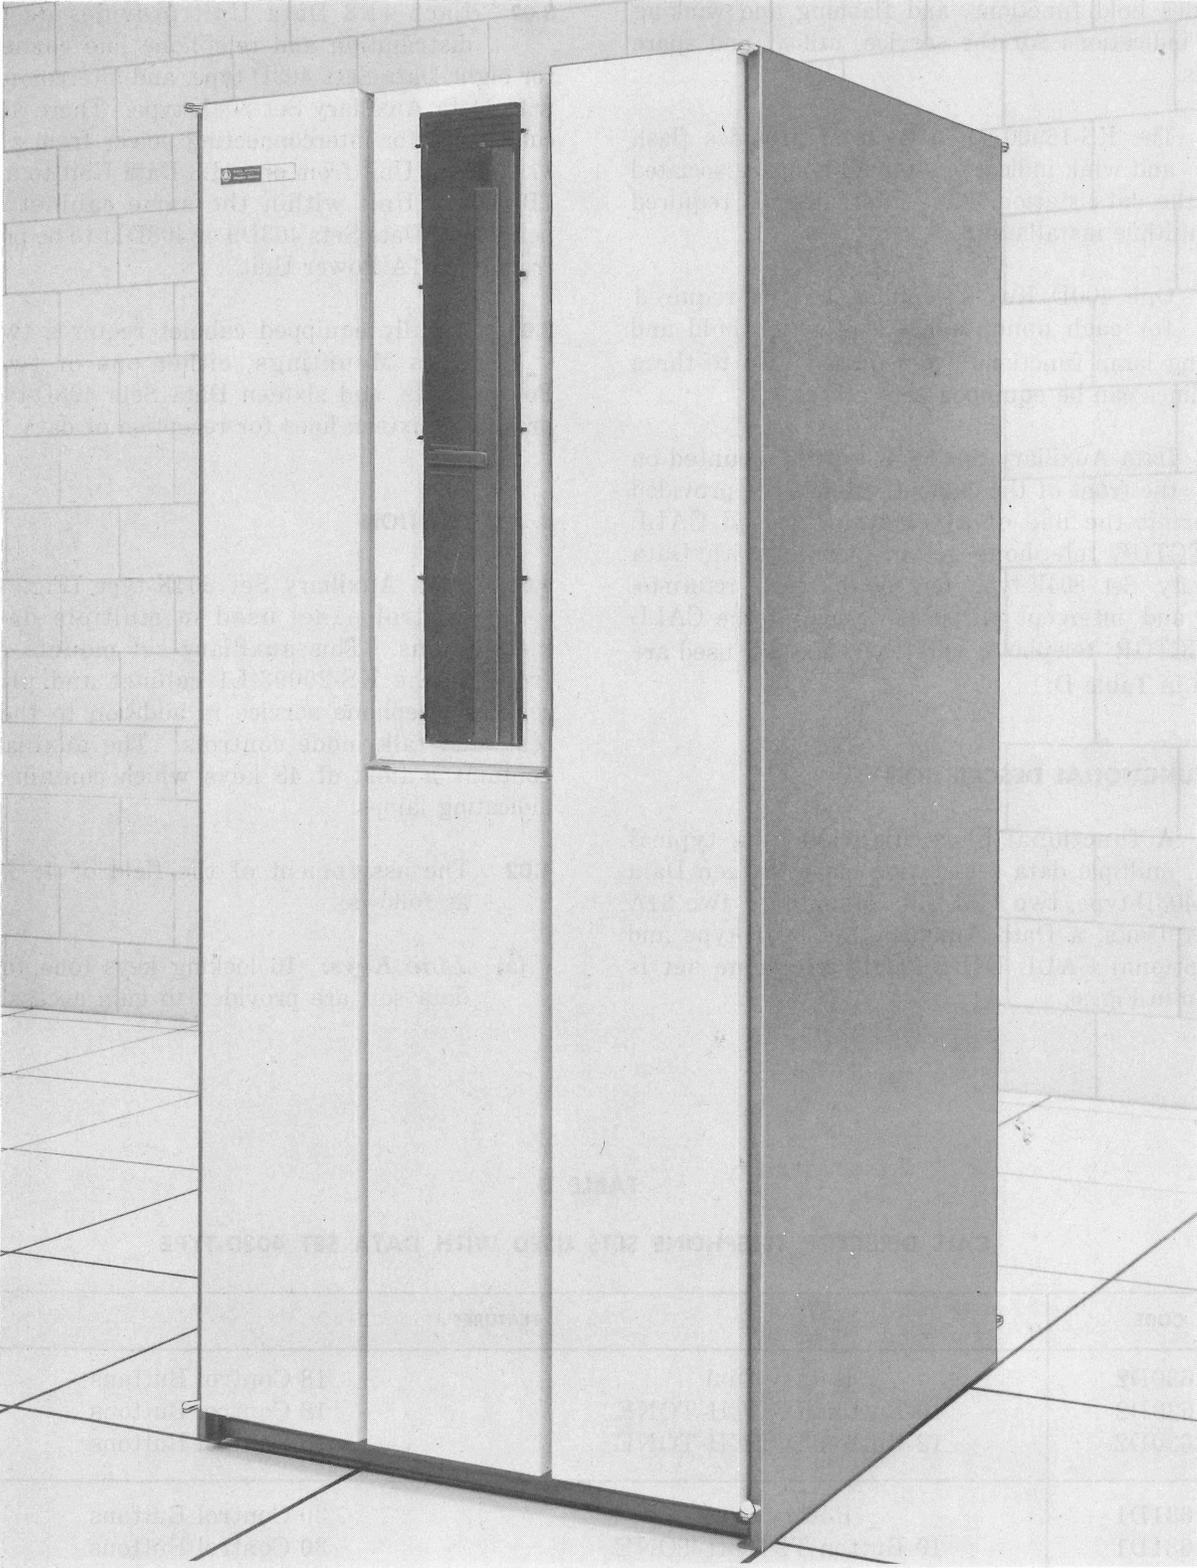

Fig. 5—KS-20093-L1 Cabinet—Front View With KS-20093-L6 Half-Door Panel Installed
2.10 The multiple data set station is housed in a KS-20093-L1 cabinet with KS-20093-L6 half-door panel (Fig. 5). This cabinet is 30 inches wide, 30-1/2 inches deep, 74-1/4 inches high, and is designed to house as many as 16 data sets with associated equipment. The cabinet contains two compartments—a 25-inch section for mounting the receivers, and a 5-inch section for mounting the jacks for the customer interface.